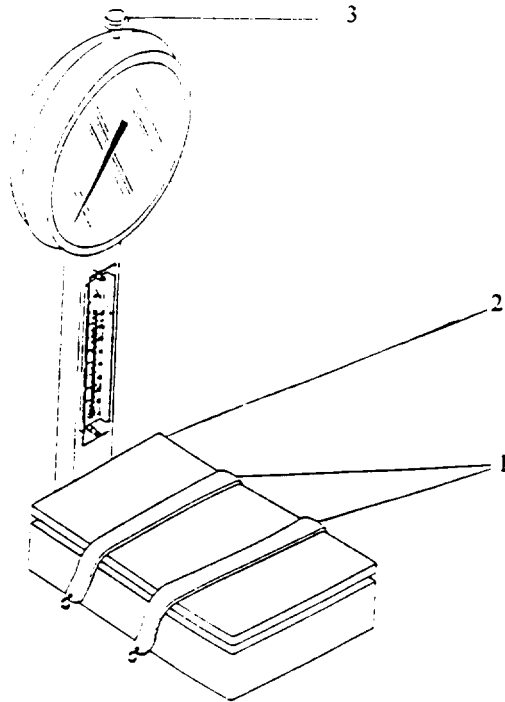

Figure 4-5. Scale Replacement
- (1) Turn the four adjustable feet (7) until the scale is resting firmly at each corner on the supporting surface.
- (2) Verify the scale is level by observing the leveling device attached to the side of the column assembly. The plum rod should be centered as closely as possible for the best results.
- (3) Using the lock nuts loosened in para d, above, lock each adjustable foot in position.
- k. Adjust the zero balance device (3, Figure 4-5) to obtain a zero reading. Turning the zero balance clockwise causes the indicator assembly to move clockwise. Turing the zero balance device counterclockwise causes the indicator assembly to move counterclockwise.
**4-13 SCALE REPLACEMENT. (Refer to Figure 4-5)**